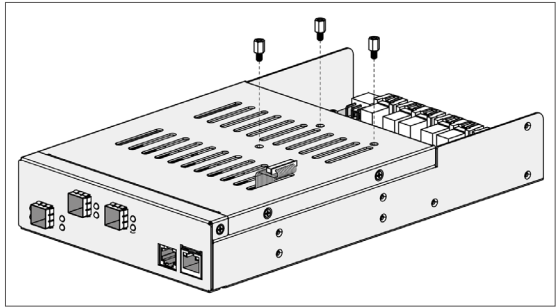

Figure B-8, Connecting to Battery
4. Secure the three hexagon copper stand-off on the caddy cover (reference NO.4 in Figure B-5), as shown in Figure B-8.